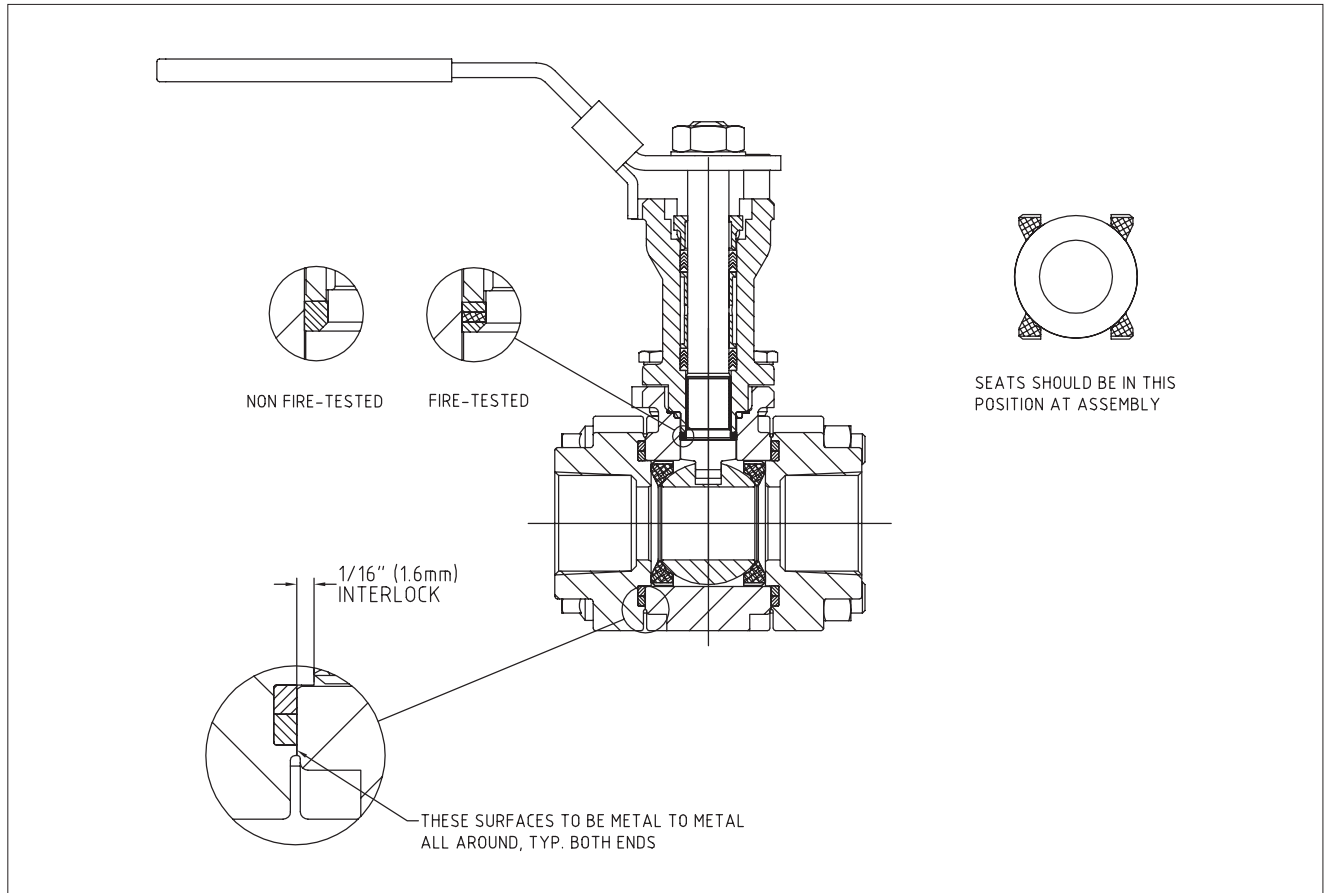

Figure 5
3. If handle is installed, remove handle nut (16), lockwasher (19) and handle (17).
4. Loosen all four body bolts (52). Remove three from the valve. Leave the remaining bolt in place with the hex nut (53) backed off at least 1/4" (6.4 mm).
5. For positive alignment and ease of in-line assembly, each end cap is interlocked approximately 1/16" (1.6 mm) into the body per (**Figure 5**). To overcome this feature during in-line disassembly it is necessary to separate each cap at least 1/8" (3.2 mm) from the body. Sharply rap body and caps with a block of wood or plastic mallet to break loose body seal. Spread end caps and swing the body out of the line. If pipe does not allow simple spreading, remove the remaining body bolt and rotate center section. This will improve access to the end cap flange for ease of spreading. Swing the valve body (1) out from between the end cap (2), **BEING CAREFUL NOT TO DAMAGE ANY SEALING SURFACES**.
6. Turn the stem (4) so that the valve is fully closed. Remove the inner body seals (6) and outer body seals (18) and the seats (5). Body seals will be tightly compressed in their grooves. Use extreme care when taking them out. Damage such as scratches to the bottom of the groove will cause leaks. If the seats are not easily removed, gently tap the ball (3) with a piece of wood or other soft material.
7. Remove the ball (3)
8. Remove hex head cap screws (29), disc springs (31) and compression plate (20).
9. Remove the hex head cap screws (102) and remove *Emission-Pak* housing (101) from body (1).
10. From the *Emission-Pak* housing remove stem (4), stem bearings (13), secondary stem seal (7), bearing strip (109), stem seals (104) and lantern ring (103), **BEING CAREFUL NOT TO DAMAGE ANY SEALING SURFACES**.
11. Carefully remove and discard *Emission-Pak* body seal (105) and *Emission-Pak* body gasket (106), **BEING CAREFUL NOT TO DAMAGE ANY SEALING SURFACES**.
NOTE: The sealing surface of the seat is toward the ball per (**Figure 5**).
14. Place an inner body seal (6) and an outer body seal (18) into the machined sealing groove of the body cap (2) per (**Figure 5**).
19. Bolt the valve together with the lubricated body bolts (52) and hex nuts (53). Tighten these bolts evenly and alternately to the torque values listed in (**Table 1**).
20. If so equipped, install the handle (17), lockwasher (19) and handle nut (16). Tighten handle nut to the torque values listed in (**Table 3**).